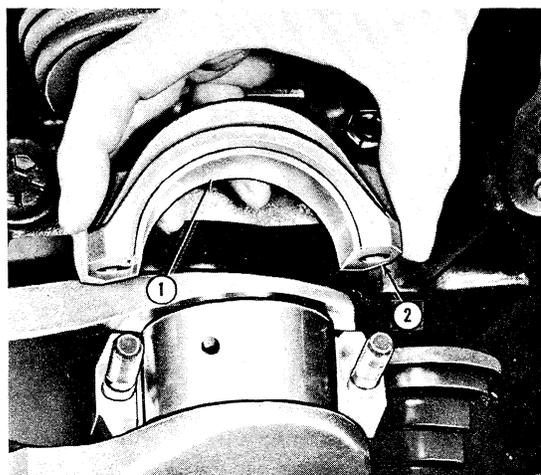

Figure 28
4. With the connecting rod at the bottom of the stroke, remove the bearing cap and liner, Figure 28.